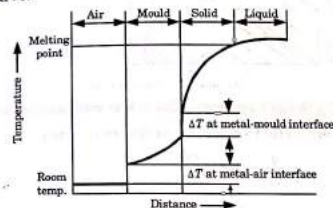

Fig. 1.5.1. Temperature distribution in different layers during solidification of metals.
- Fig. 1.5.1 shows the temperature distribution in the mould-liquid-metal interface.